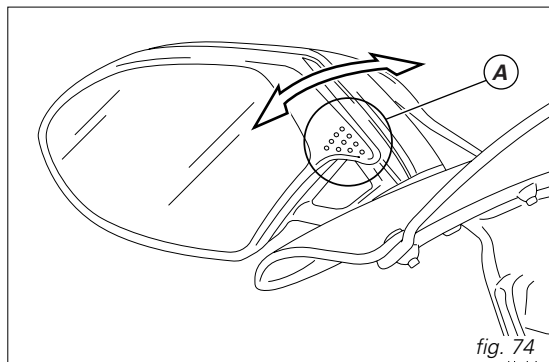

fig. 74
**Rear view mirror adjustment** (fig. 74)